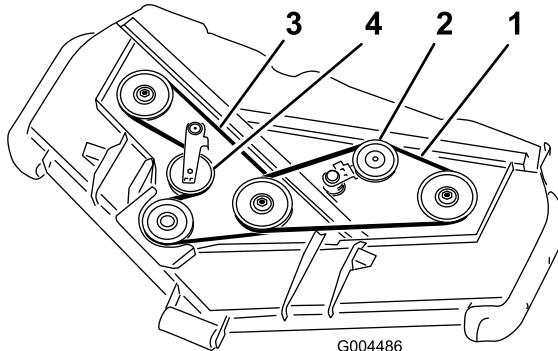

Figure 58
3. Using a breaker bar or similar tool, move the idler pulley for the top belt (Figure 58) away from the top drive belt to release the belt tension and allow the belt to be slipped off the pulleys.
4. Using a breaker bar or similar tool, move the idler pulley for the bottom belt (Figure 58) away from the bottom drive belt to release the belt tension and allow the belt to be slipped off the pulleys.
5. Route a new belt around the gearbox pulley, bottom spindle pulleys, and idler pulley assembly as shown in Figure 58.
6. Route a new belt around the top spindle pulleys and idler pulley assembly as shown in Figure 58.